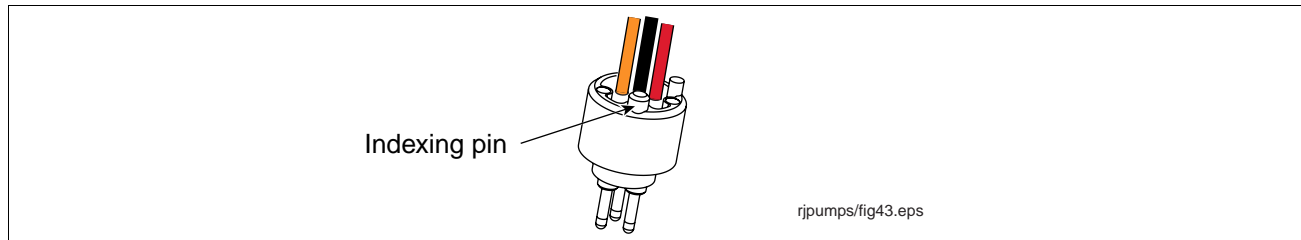

Figure 39. Male connector's indexing pin
8. Notice the small indexing pin on the back of the male connector (see Figure 39).